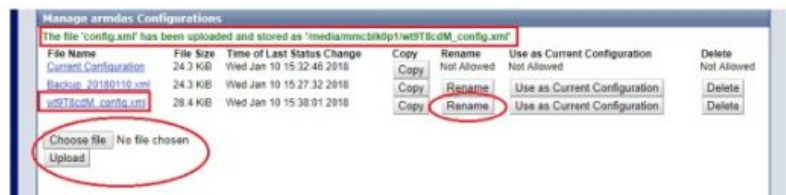

Figure 34: Choose new file to upload
3. The Upload Panel: While the Configuration List allows downloading configurations from the device by clicking on the name, this part of the screen provides the possibility to upload a configuration to the web interface by selecting a configuration file and using the Upload Configuration Button. As can be seen in Figure34, after a successful upload a new file is shown in the Configuration List and the name of the newly available configuration is written at the top of the list. (The name of new configuration will be created from a random string followed by “\_config.xml”). The configuration can then be changed by clicking on Rename. Note that the upload panel might look different depending on the browser in use.